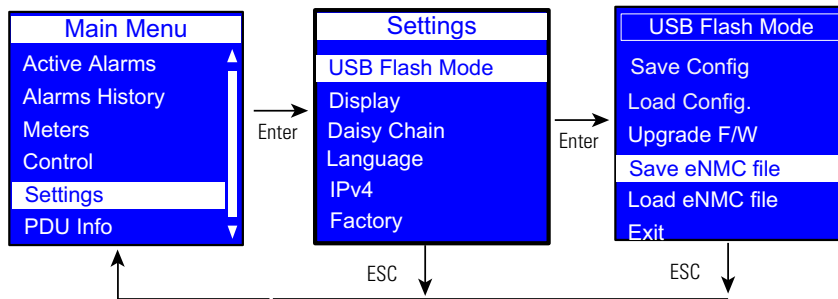
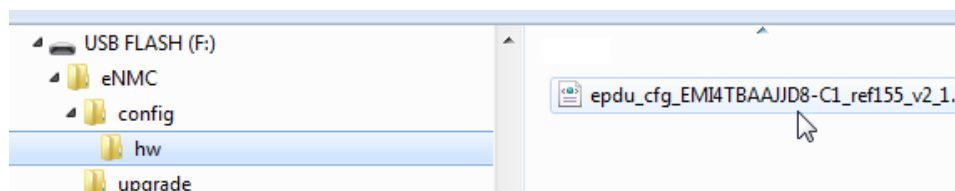

Figure 55. Example Save eNMC File
Figure 56. Verify HW File at USB Root
4. Select Save eNMC file to save the PDU hardware configuration file to the USB drive (see Figure 55). The file will save to the eNMC/config/hw path at the USB drive root directory (see Figure 56).).